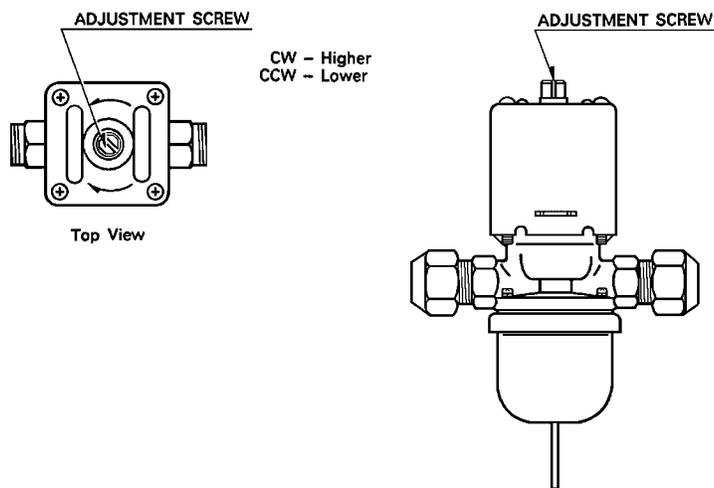

Fig. 1
- 2) Rotate the adjustment screw by using a flat blade screwdriver, so that the pressure gauge shows 270 PSIG or the thermometer reads 104-115 °F, 5 minutes after a freeze cycle or icemaking process starts. When the pressure exceeds 270 PSIG, or the condenser drain temperature exceeds 115 °F, rotate the adjustment screw counter-clockwise. See Fig. 1.